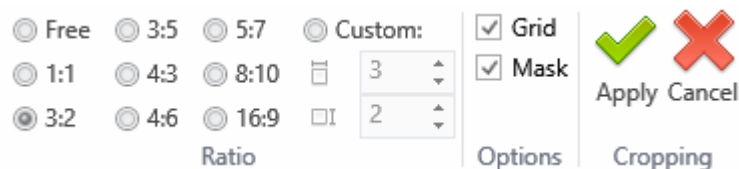

Figure 14.
- Select the crop ratio and other adjustments (Fig. 14)